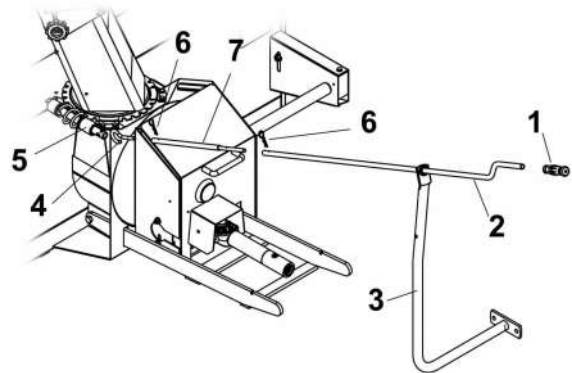

Figure 6
- Install 1/2 x 3" handle grip (fig. 6, item 1) on chute rotation handle (item 2) and place handle through grommet in rotation support (item 3).
- Install the handle extension (fig.6, item 7) (included with the subframe kit) on the rotation handle (item 2) with a 2.5 mm. hair pin.
- Install hook (fig.6, item 4) on rotation worm (item 5). Insert hook in rotation handle and lock in place with a 2.5 mm hair pin. (item 6).
The chute rotation handle (fig.6, item 2) is located to the left of steering wheel. Turning the handle in a clockwise direction, turns the discharge chute in a clockwise direction.